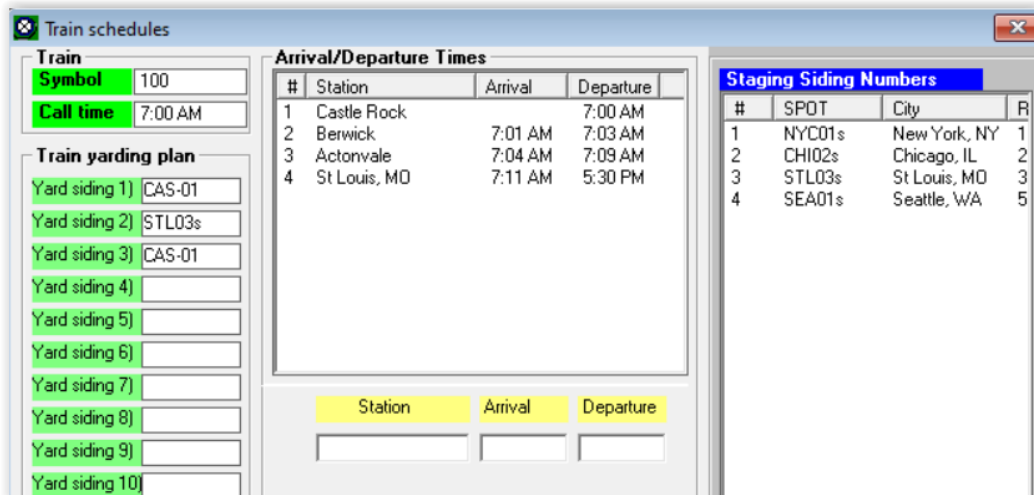

Figure 13-20c
- g. Now change the arrival time to "7:11 AM" and click on the "Save" button. The result is shown in Figure 13-20c.